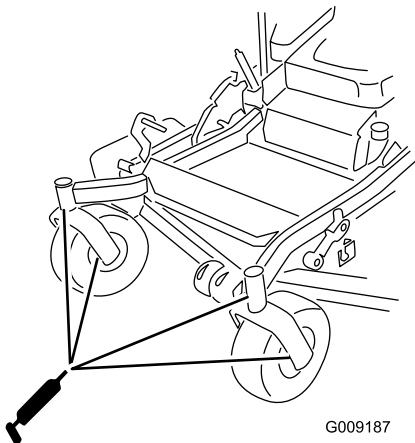

Figure 42
- Install the hex plug and dust cap (Figure 42).